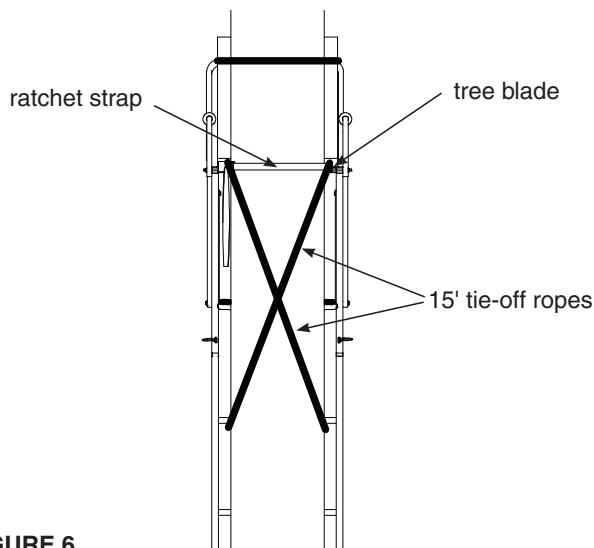

FIGURE 6
e. Wrap the previously attached 15' tie-off ropes hanging down from platform, around the back side of tree in opposite directions of each other. Pull the ropes snug and tie them to the ladder at the stabilizer bar height location. This ground level ladder-to-tree attachment will prevent the ladder from pulling away from the tree while ascending to top for final ratchet strap attachment. The same holds true when ladder removal is necessary. **SEE FIGURE 6.**